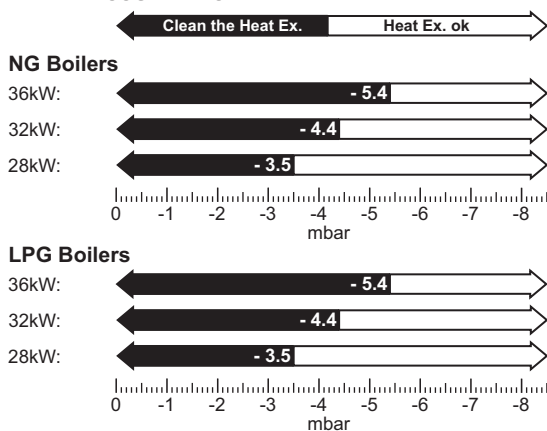

Fig. 70 Fan pressure readings
- ▶ The pressure will read negative, refer to the chart in figure 70 below.